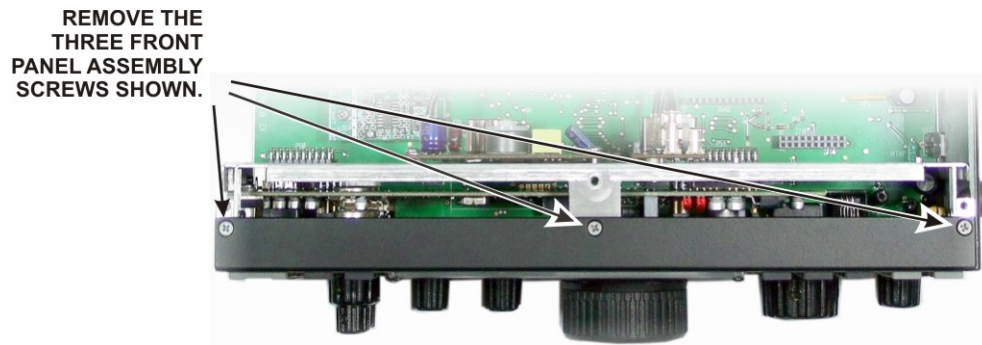

Figure 5. Removing the Top Front Panel Screws.
- Remove the three screws securing the top of the front panel assembly as shown in Figure 5.
⚠ CAUTION: Before continuing on with the next step, be sure you have removed the three top Front Panel Assembly screws shown in Figure 5. You may bend and damage the front panel or shield assemblies if the screws are not removed!
Fasten the top of the front panel assembly with three 4-40 3/16" (4.8 mm) black flat head screws (see Figure 5).